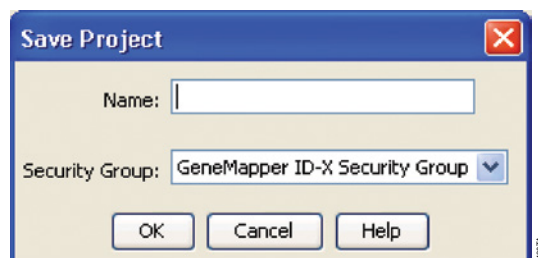

Figure 26. 'Save Project' window.
9. If all analysis requirements are met, the 'Save Project' window will open (Figure 26).